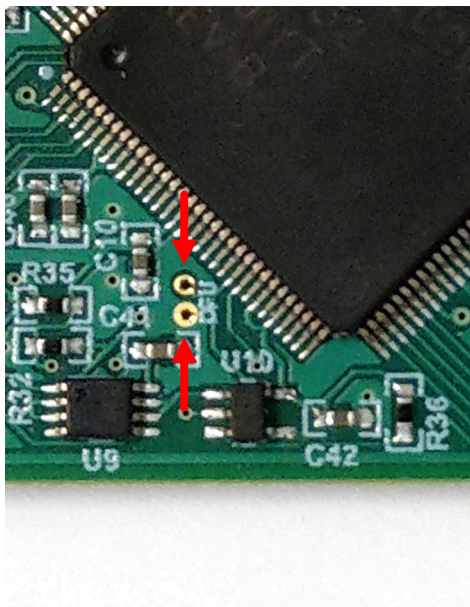

Figure 4-3. Test Points Used to Enter DFU Mode Manually
- While shorting the two test points labeled "DFU" (shown in Figure 4-3) with a pair of tweezers (or wire), press and release the RESET button.